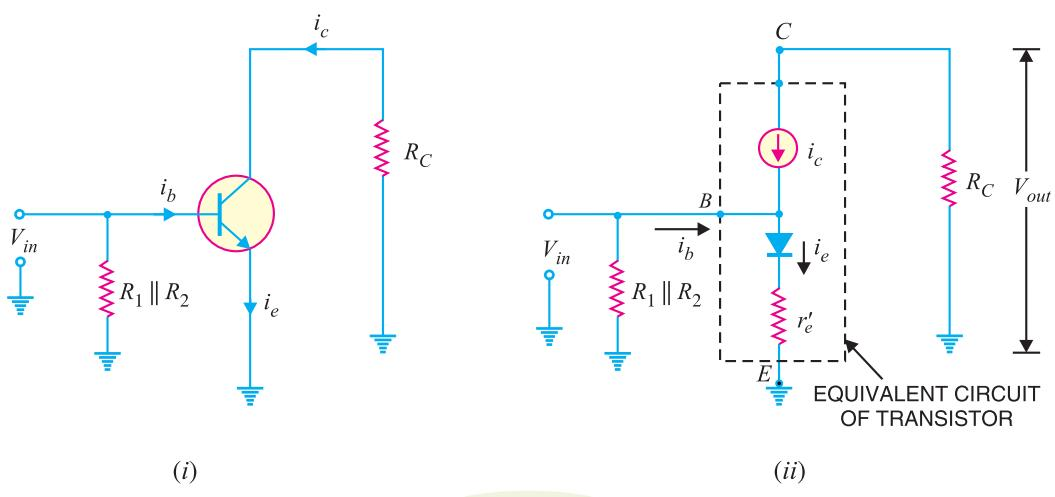
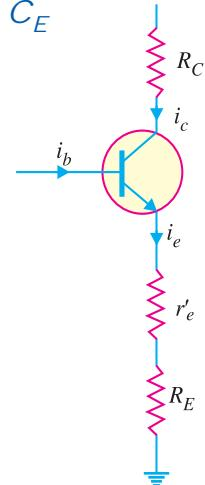

**Fig. 10.25**
Fig. 10.29
The above formula for  $A_v$  can be used if we know the values of  $R_C$  (or  $R_{AC}$ ),  $\beta$  and  $R_{in}$ . Generally, all these values are not known. In that case, we can find the value of  $A_v$  in terms of *total a.c. collector resistance* and *total a.c. emitter resistance*. For the circuit shown in Fig. 10.25 (with  $C_E$  connected across  $R_E$ ), it can be proved that the voltage gain is given by ;
Fig. 10.25 shows the circuit of unloaded *CE* amplifier (i.e. no load  $R_L$  is connected to the circuit).
**Derivation.** Fig. 10.25 shows the common emitter amplifier. The ac equivalent circuit of the amplifier is shown in Fig. 10.26. (i). Replacing the transistor by its \*equivalent circuit, we get the circuit shown in Fig. 10.26 (ii). Note that current source is still connected between the collector and base terminals while the diode between the base and emitter terminals. Further, the input current is the base current ( $i_b$ ) while the output current is still  $i_c$ .
When we remove the emitter bypass capacitor from the *CE* amplifier shown in Fig. 10.25, the voltage gain of the circuit is greatly reduced. The reason is simple. Without the emitter bypass capacitor  $C_E$ , the emitter is no longer at the ac ground as shown in Fig. 10.29. Therefore, for the a.c. signal, both  $r'_e$  and  $R_E$  are in series. As a result, the voltage gain of the amplifier becomes :